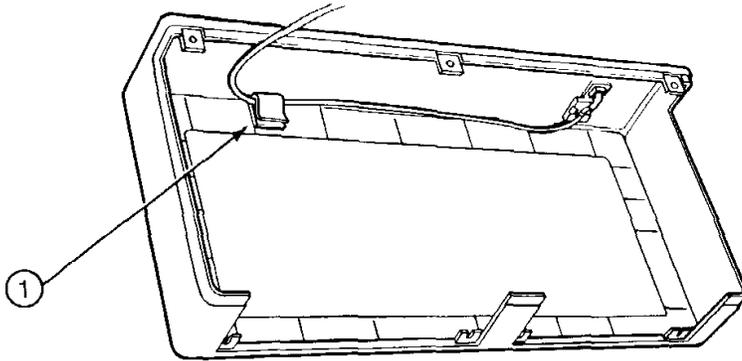

FIGURE 20
41. Place the cable in the other holder. (Figure 20, Item 1). Install a tie wrap if necessary. Cut off excess tie wrap.